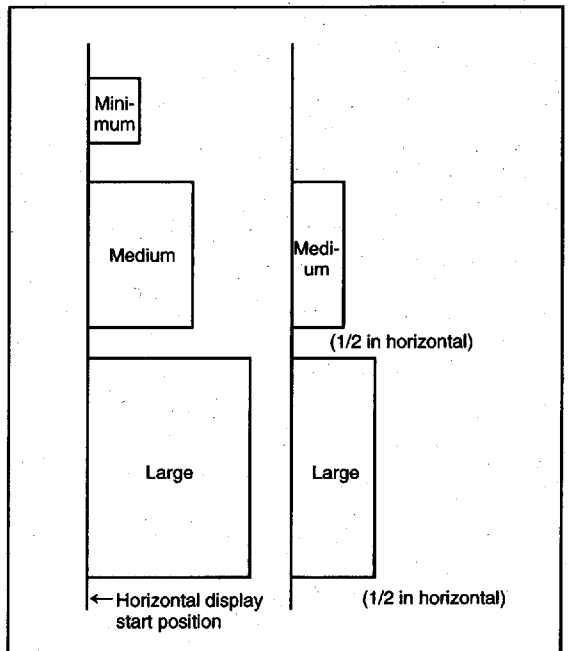

Fig. 54. Display start position of each character size (horizontal direction)
**Notes 1:** The display start position in the horizontal direction is not affected by the character size. In other words, the horizontal display start position is common to all blocks even when the character size varies with each block (refer to Figure 54).
**(4) Phase difference determination display**